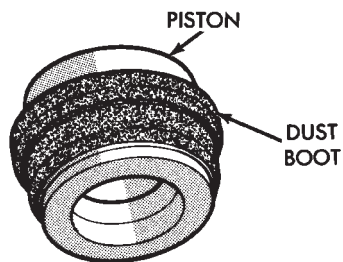

Fig. 53 Dust Boot On Piston
- (5) Install new dust boot on caliper piston and seat boot in piston groove (Fig. 53).